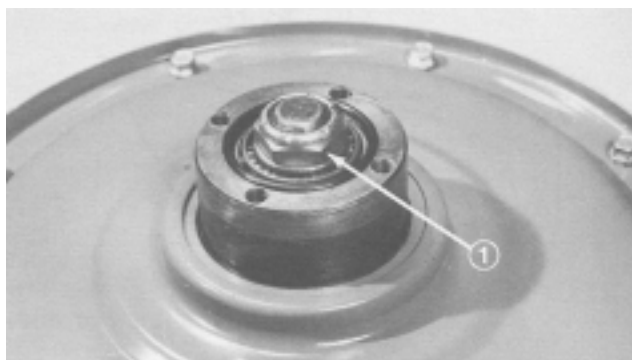

Figure 17
3. Remove wheel hub nut from axle shaft (Fig. 17).